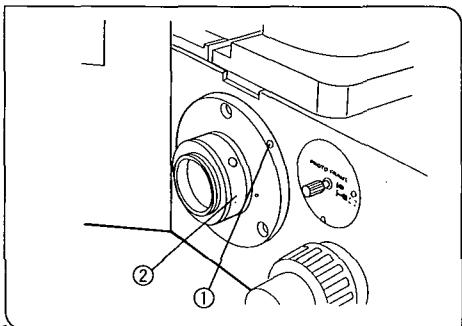

Fig. 110
1 Attaching the Video Adapter to the Side Port (Figs. 110, 111)
1. Loosen the side port clamping screw ① using the Allen screwdriver.
2. Fit the video adapter (IX-TVAD) ② onto the side port and tighten the clamping screw ①. (Fig. 110).
2. Lightly loosen the clamping screws ①, ⑤. (Figs. 110, 111)
3. While observing the monitor image and holding the U-CMT ③ or U-FMT ④ stationary, rotate IX-TVAD ②. Tighten the clamping screws ① and ⑤ when the image is in focus. (Figs. 110, 111)